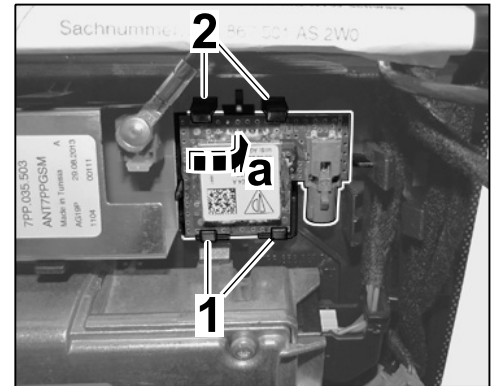

Figure 7
2.6 Insert GPS antenna into the holder (⇒ *Figure 7*).
Press GPS antenna up (⇒ *Figure 7*-arrow a-) until the clips (2 x) lock securely (⇒ *Figure 7*).